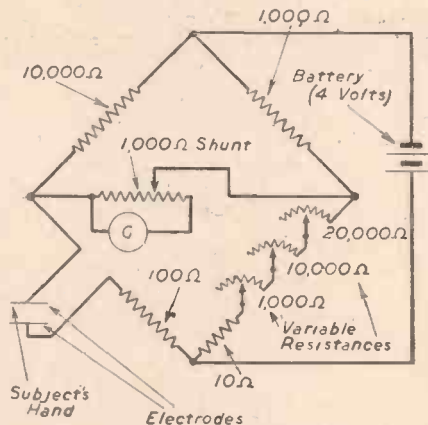
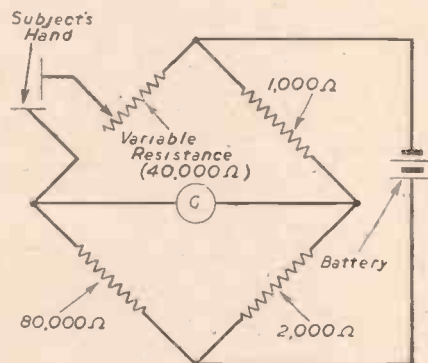

Fig. 1.—Circuit diagram.
Fig. 2.—Alternative circuit diagram.
The device I am about to describe—the psychogalvanometer, to call it by its scientific name—records the last of these. When we are in a situation fraught with danger or uncertainty we perspire more profusely than at normal times. This increase in sweat secretion, though it might not be sufficient to produce drops on the forehead, does produce a "drop" in the electrical resistance of the skin. This lowering of resistance can be measured by attaching to the palm and back of a person's hand two electrodes, which are connected to the circuit shown in Fig. 1.
For the benefit of those who are unable for some reason to use the circuit given in Fig. 1, a practical alternative circuit is given in Fig. 2.\* This is much simpler, as it omits the galvanometer shunt and includes only one variable resistance.
6. If the circuit shown in Fig. 1 is used, adjust the galvanometer shunt until the needle or light spot stays reasonably steady whilst the subject is at rest.